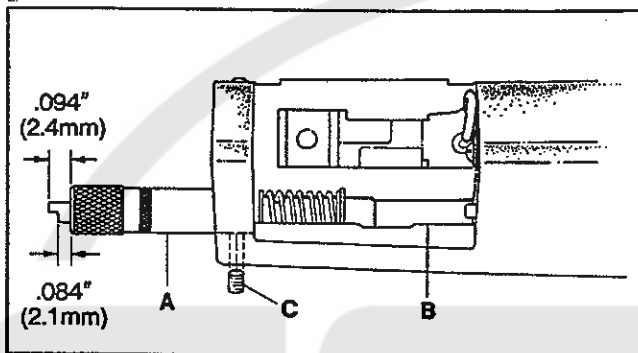
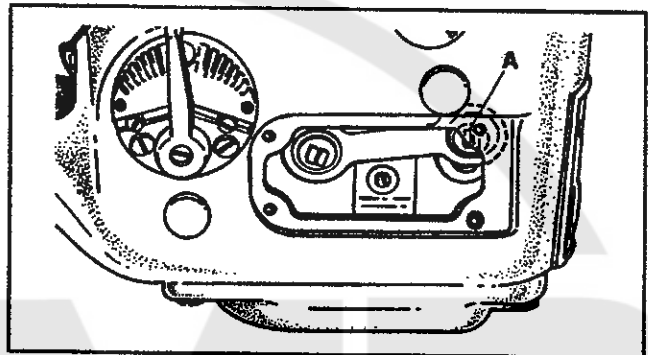

FIG. 12
FIG. 13
The looper avoid is set at .094" (2.4mm). Using gauge no. 21227BV (A, Fig. 12), position looper shaft (B) fully to the rear (away from operator) and insert the gauge through the looper shaft hole in the end of the cylinder until the plunger is fully extended from the gauge. Tighten clamp screw (C). When the looper is positioned fully to the front, the end of the plunger should be flush with the end of the gauge. The motion of the plunger from the extended position to flush represents .094" (2.4mm) travel. If less looper avoid is required, use the other step on the gauge which is .084" (2.1mm). To adjust the looper avoid remove the cylinder cover and loosen screw (A, Fig. 13) with TI-85 wrench. Raise the ball joint to shorten the avoid motion or lower it to lengthen the avoid motion. Tighten screw (A). Reposition gauge (A, Fig. 12) and recheck the setting.